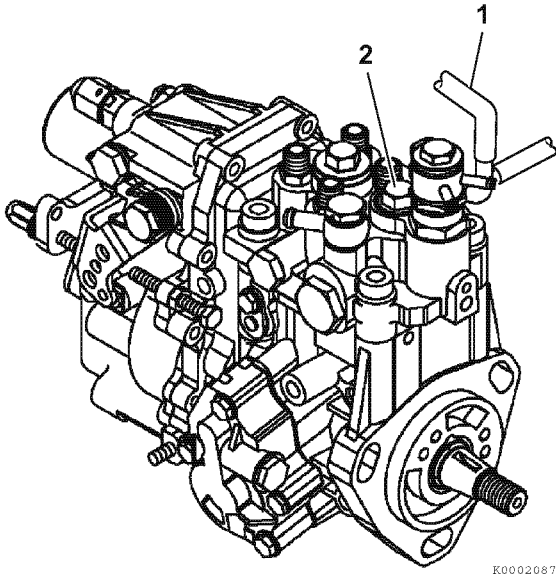

Figure 7-41
2. Clamp shut the fuel injection pump fuel return hose leading to fuel filter (1, **Figure 7-41**).
3. Remove the forward fuel injection pump plunger plug (2, **Figure 7-41**) on the top of the fuel injection pump.